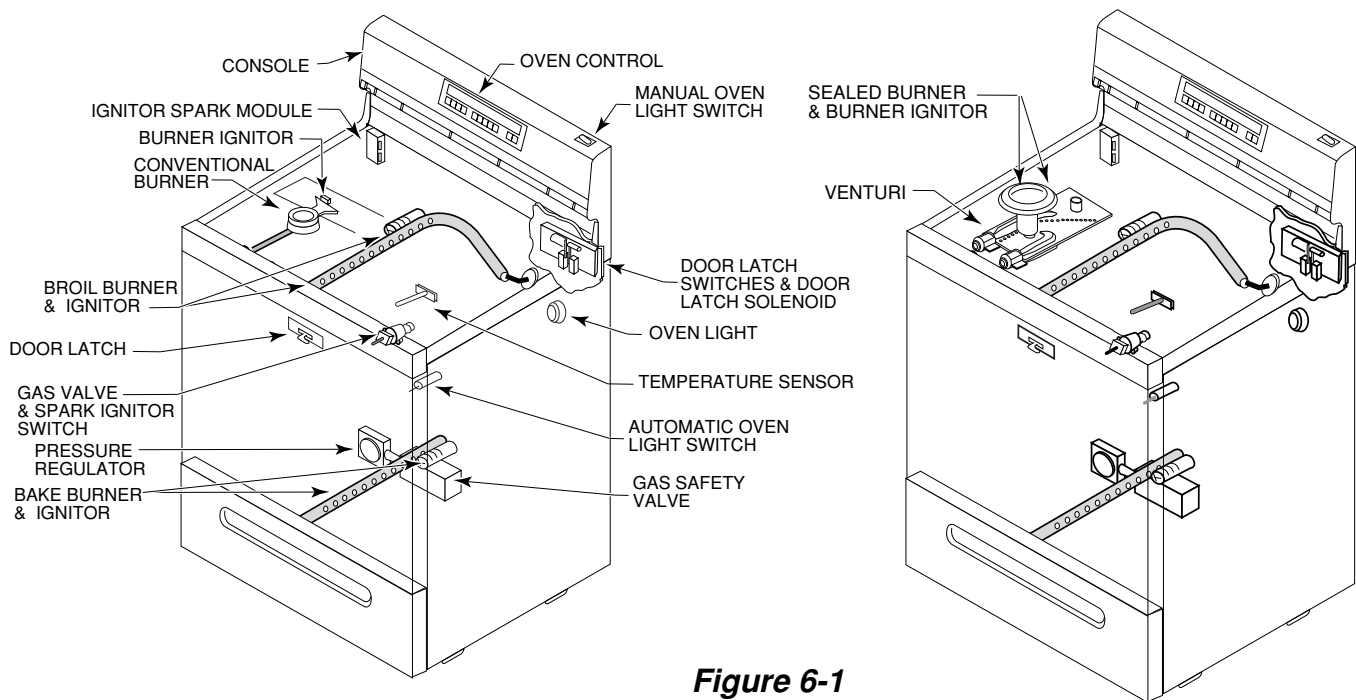

Figure 6-1
5. The following pages provide a general procedure for troubleshooting each of the major components in the range. The component locations are shown in Figure 6-1.